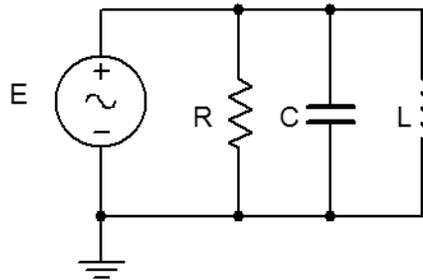

Figure 7.3
9. Using Figure 7.3 with both the  $10\ \text{nF}$  capacitor and  $10\ \text{mH}$  inductor (and a third sense resistor), repeat steps 1 through 7 in like manner, using Tables 7.5 and 7.6. Note that it will not be possible to see all four waveforms simultaneously in step 5 if a **two channel oscilloscope** is being used. For a **four channel oscilloscope**, place a probe across each of the three sense resistors.